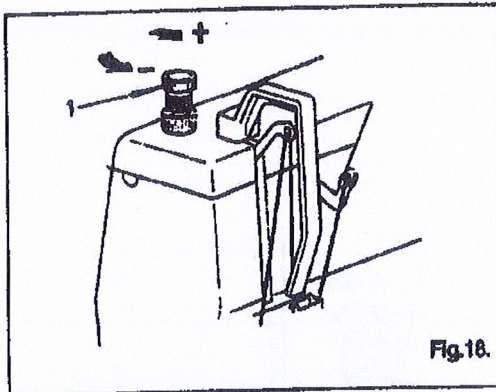

Fig.18.
To regulate the presser foot pressure, turn knurled thumb screw (1), Fig.18, toward left or right as required.